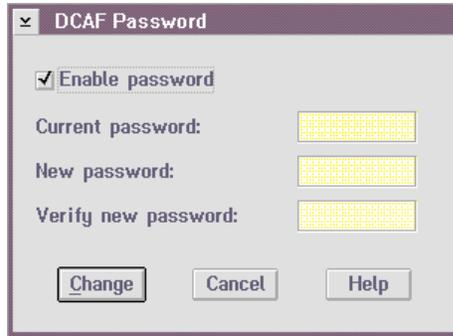

Figure 166. DCAF Password
- On the DCAF Password window (Figure 166 on page 258), click on the **Enable password** check box.